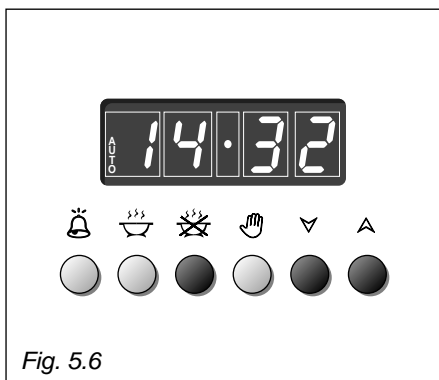

Fig. 5.6
2. Set the end of the cooking time by pressing the  button (the cooking time already added to the clock time will appear), and the  button (fig. 5.6); if you pass the desired time you may get back by pushing the  button.